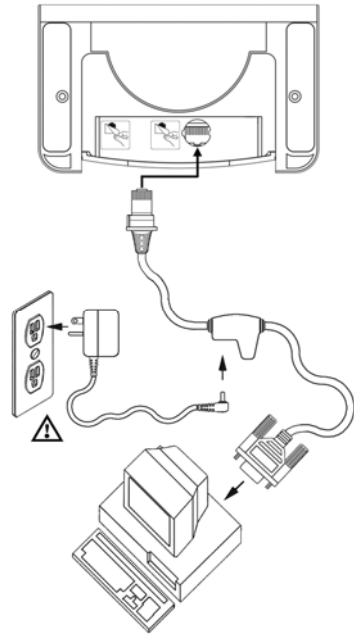

Figure 8. RS232 Interface
2. Connect the keyed VLink cable to the 10-pin Multi-Interface jack. It is the only circular keyed jack located on the bottom of the 7820 (see figure 8).